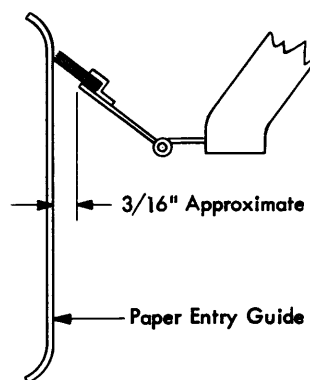

Figure 21. Initial Brush Position
2. Close the T-casting and adjust the brush mounting hinge to locate its lower portion about $\frac{3}{16}$ " from the paper-entry guide (Figure 21). This is an initial position.